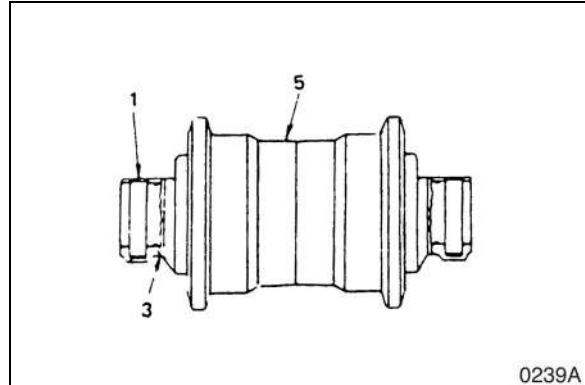

Figure 37
- Install the collar (3, Figure 37), O-ring (2), and pin (1) on the remaining side.